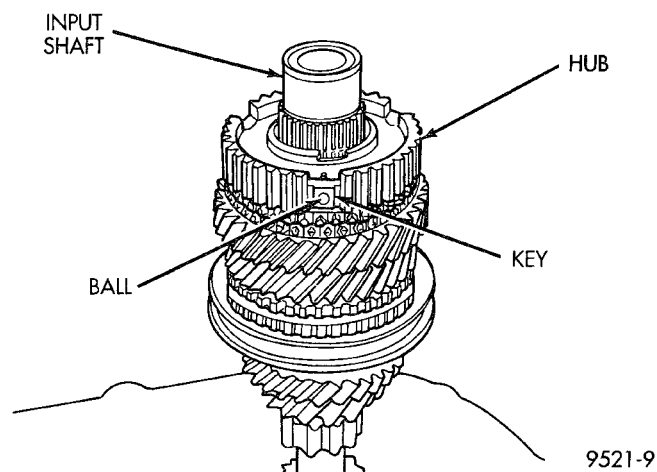

Fig. 118 Synchronizer Balls
(3) Insert key into hub and spring.
(4) Apply petroleum jelly to the hole in the key. Insert balls into each key (Fig. 118).